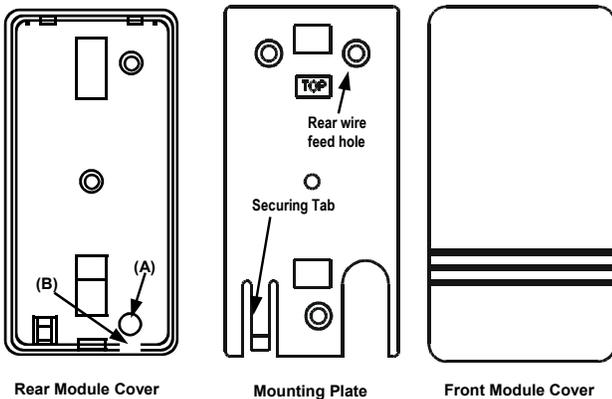

Fig. 1. GEM-TEMP64 Component Parts
Drill wire feed hole. The Rear Module Cover (see Fig. 1, above) contains two wire feed holes: A pre-drilled rear hole (A) and a side hole (B) that is opened by removing the tab with pliers or similar tool, of used. Minimum size for the wire feed holes is 1/8", but can be made larger if necessary. **Note:** If using the rear wire feed hole, do not exceed a diameter that can be concealed by the GEM-TEMP64 module. The diameter of the feed hole should not exceed 1/2" and should be made as small as possible. **Warning:** Use caution when drilling holes--there may be